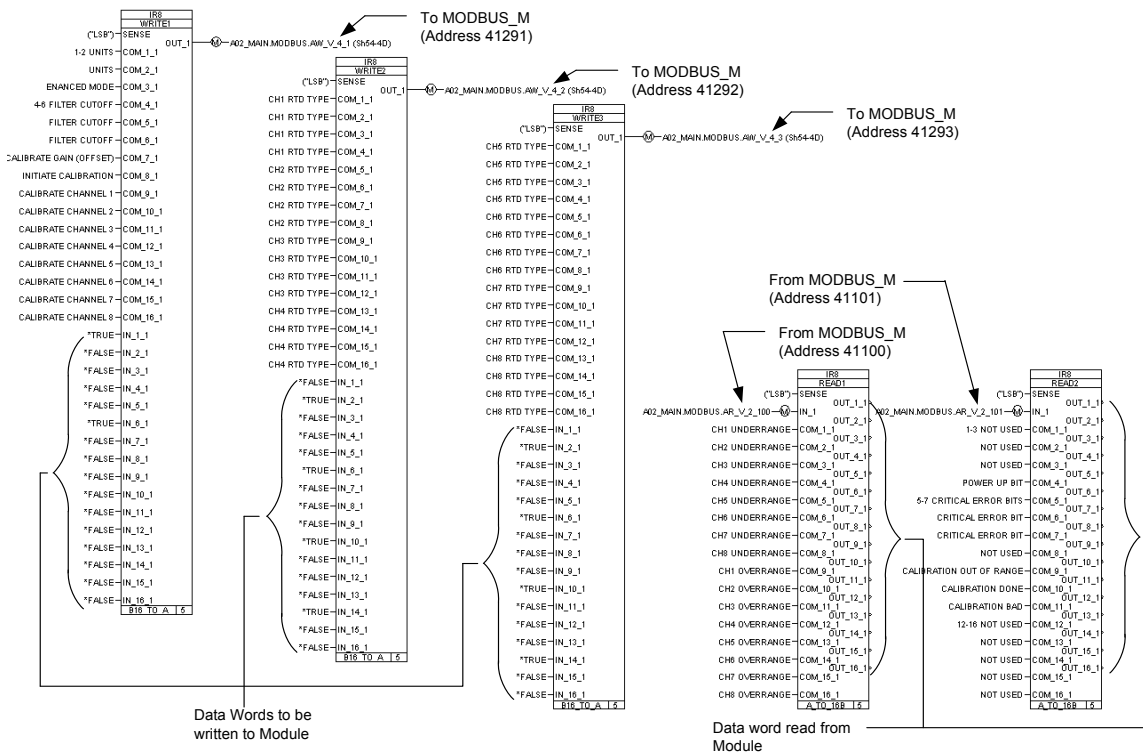

Figure 6-96. Example of 1794-IR8 Read and Write GAP Blocks
In this example, the first read block is set up to monitor the underrange and overrange bits on the module. The second read block monitors the Powerup bit, Critical Error bits, Calibration Range bit, Calibration Done bit, and Calibration Bad bit. The first write word (0) sets the module for °F units, 100 Hz filtering, and no calibration. The second write word (1) sets the module for 100 ohm Pt Euro RTD on channels 0, 1, 2, and 3. The third write word (2) sets the module for 100 ohm Pt Euro RTD for channels 4, 5, 6, and 7. See Figure 6-96 for GAP read and write block example.